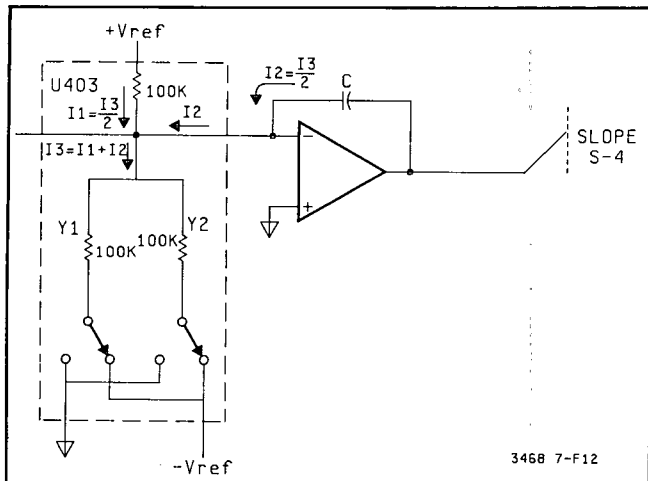

Figure 7-F-12. Slope S-4 Generation
7-F-39. Slope S + 0 and S-0 Generation. Refer to Figure 7-F-13. Note that one side of a 100K ohm resistor (Y1 path) is connected to ground and the other side is connected to the summing node. Since the 100K ohm resistor from +Vref (Y3 path) and the 100K ohm resistor from -Vref (Y2 path) are also connected to the summing node, no current flows from the integrator capacitor (C). This is because the resistance value of path Y2 and Y3 is the same and makes the current value of paths Y2 and Y3 the same (but opposite polarity). This is true for both slopes S + 0 and S-0. The only difference is that paths Y1 and Y2 are switched when the slopes are switched (Y1 to ground and Y2 to -Vref, or Y2 to ground and Y1 to -Vref).